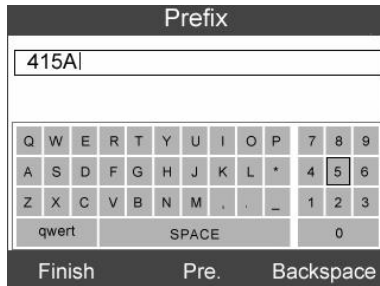

Figure 12.8
**[Edit]**: Press this key to pop up a soft keyboard to facilitate your input. (Figure 12.8)